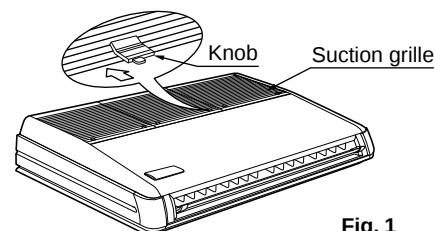

Fig. 1
- (1) **Relation of holes for indoor unit, suspension bolt position, piping and wiring.**
- (2) **Make holes for suspension bolts, refrigerant and drain pipe, and wire.**
- (3) **Remove the parts from the indoor unit.**
- Slide the locking knobs (x2) on the suction grille inward (direction of arrows) and lift upwards. (Refer to Fig. 1)